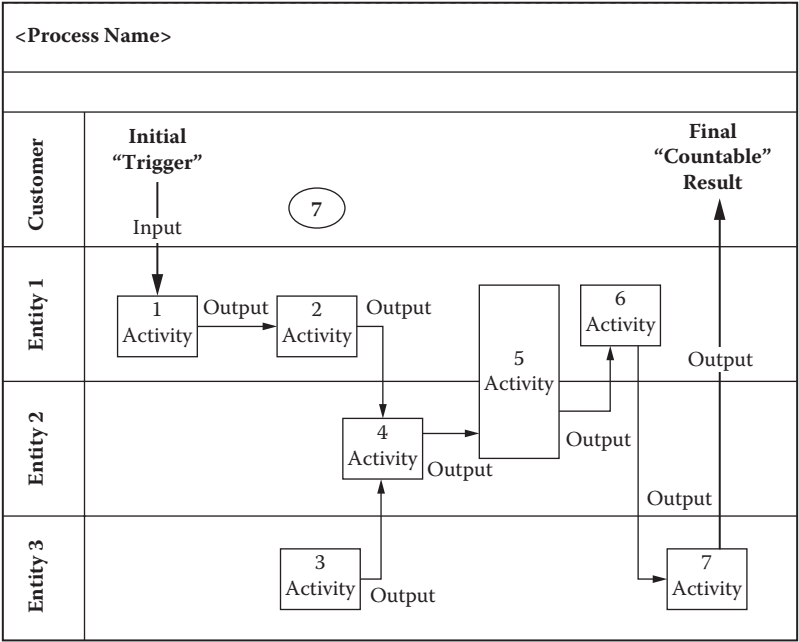

Figure 5.21 Swimlane diagram using “mapping” software.
7. Use application software to document the map (Figure 5.21). Take digital picture(s) of the map on the wall (especially if you want to chronicle its development).